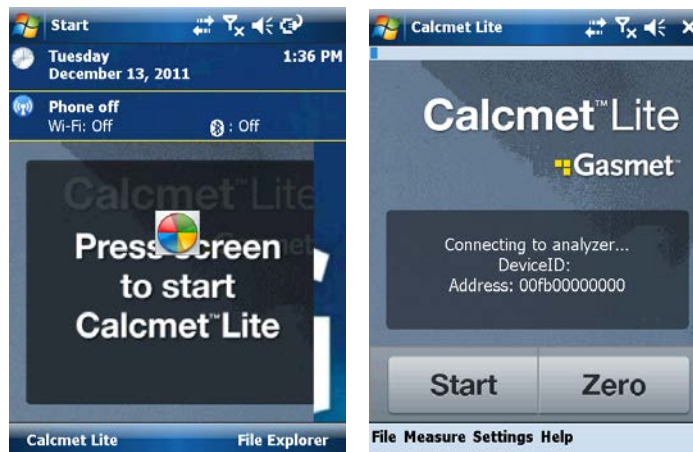

Figure 15. Correct Calcmet Lite start-up sequence.
- Use the furnished stylus pen attached in the back of the PDA and click on the Calcmeter Lite icon or go to: Start → Calcmeter Lite (Figure 15).